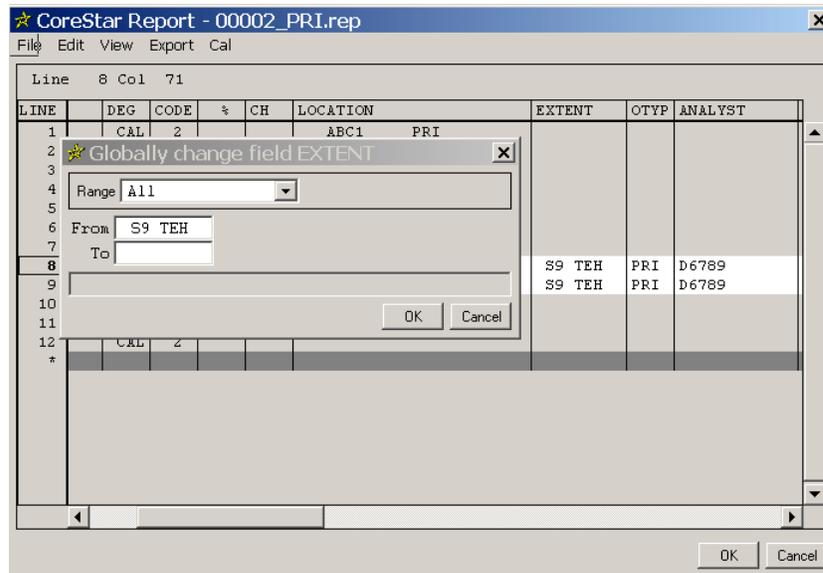

Figure 1-35. Globally Editing Text Values in a Report Using the Global Edit Dialog
STEP 32: Right-click on the *Extent* column header. As shown in Figure 1-35, a *Global* edit dialog appears. This dialog is used to make global changes to text fields in the report.